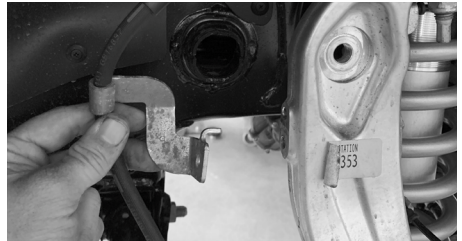

Figure 2: Passenger side shown
6. Disconnect the brake line bracket from the upright. (Figure 2)